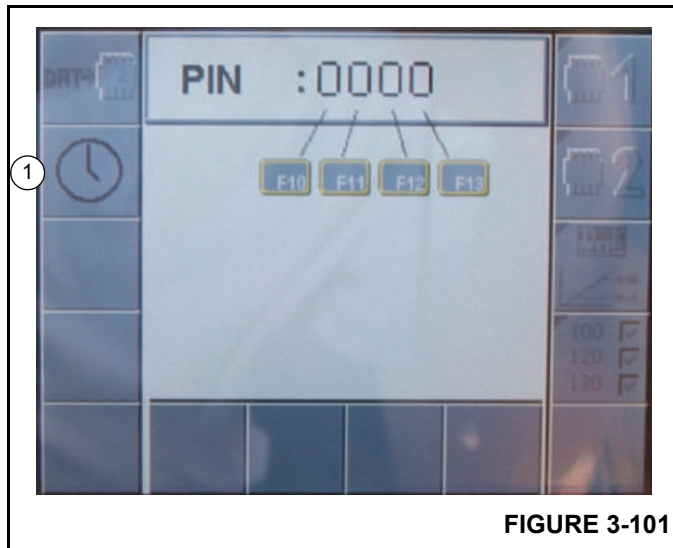

FIGURE 3-101
NOTE: Buttons/displays (3) (Figure 3-101) are only shown if a service device is connected.